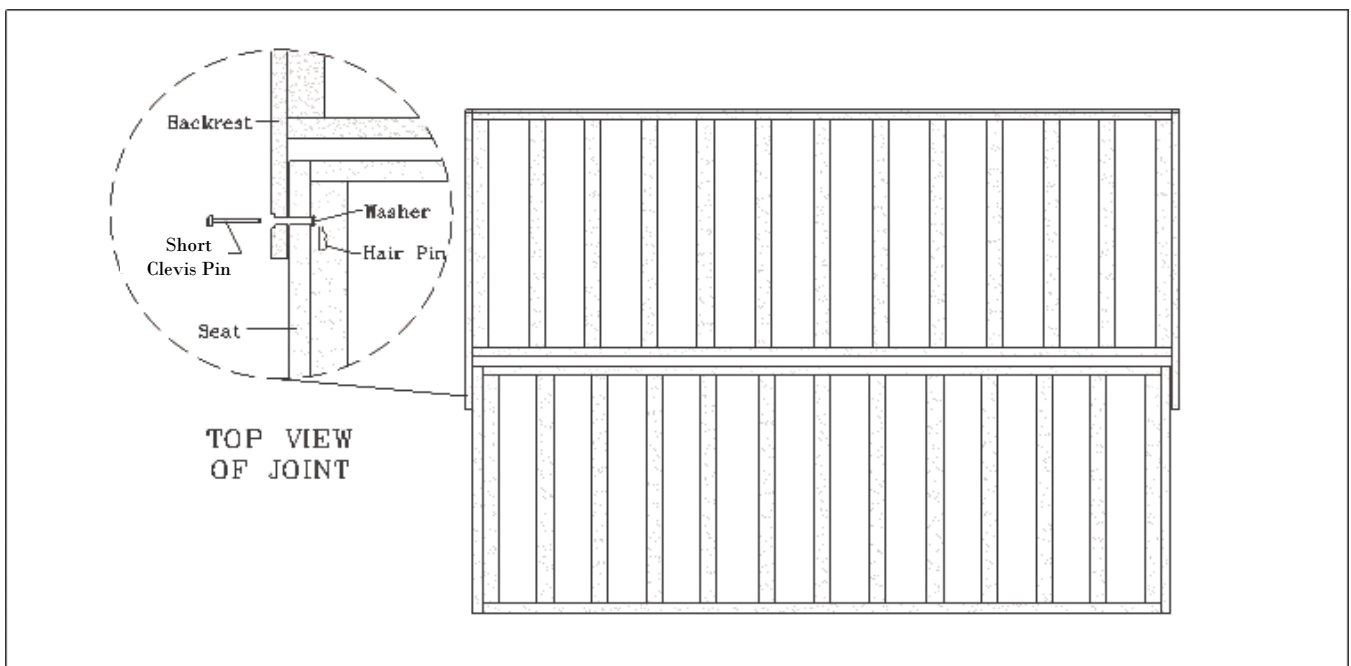

Figure 2
- 3) Line up the hole in backrest with the end hole in seat. Push a short clevis pin through hole until it bottoms out in backrest. Place a flat washer over the short clevis pin and insert a hair pin into the short clevis pin. Repeat for opposite side (Figure 2).